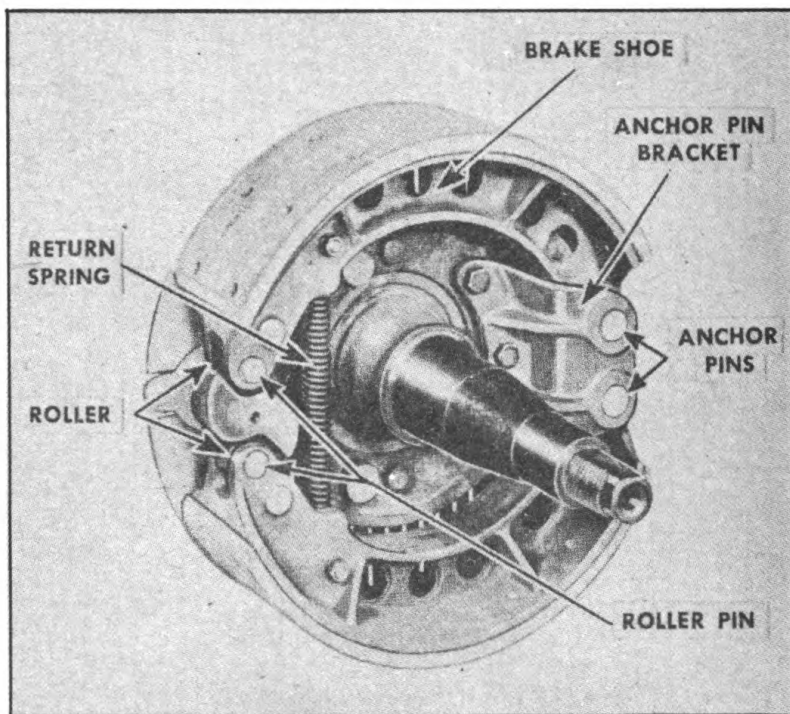

FIGURE 19. BRAKE SHOE REMOVAL
3. BRAKE SHOE.—*a. Removal* (Figure 19). Removal procedure for all brake shoes is the same.